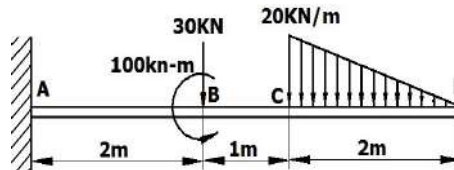

Figure 22
12. A cantilever beam is loaded as shown in **Figure 22**. Draw the shear force and bending moment diagrams, for the beam.